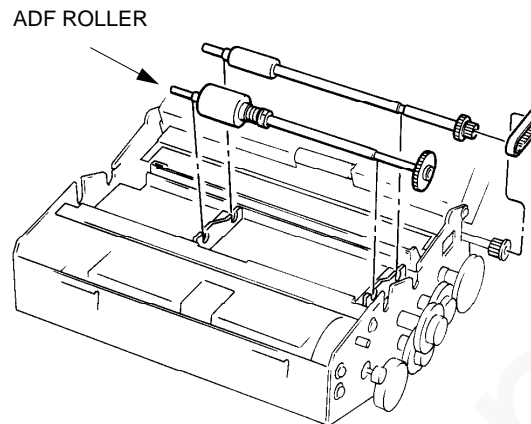

Figure 2. ADF roller
5. Remove the ADF roller (figure 2).